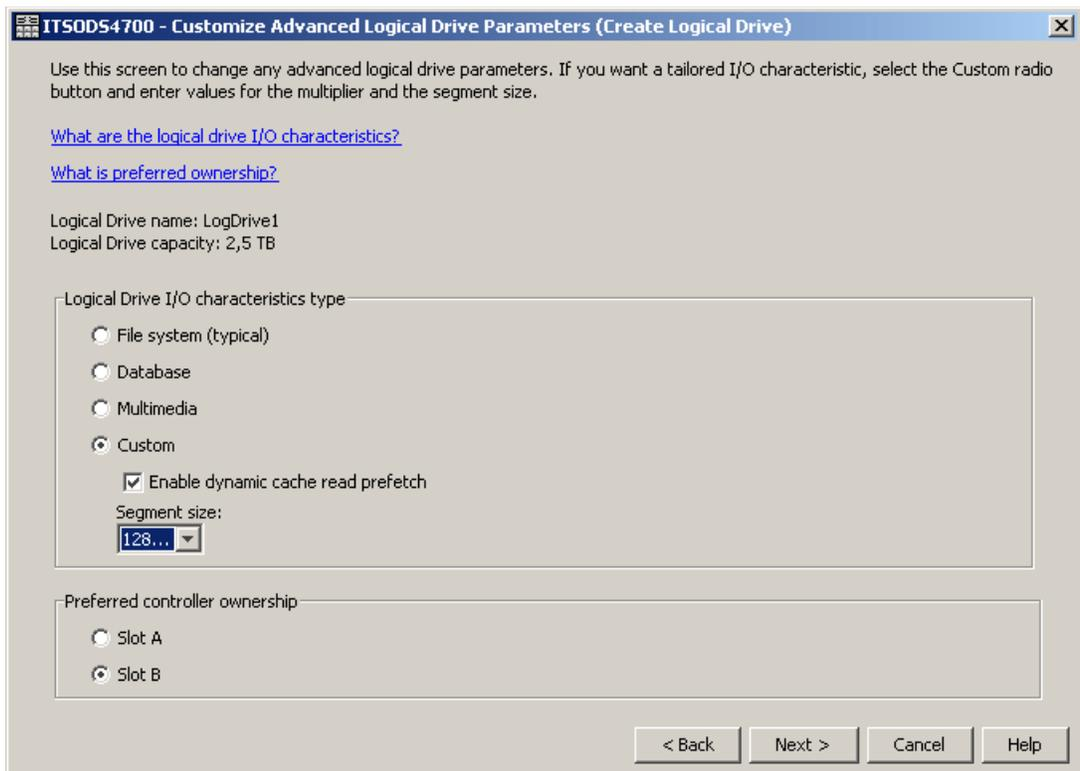

Figure 5-55 Customize logical drive parameters
7. The Customize Advanced Logical Drive Parameters dialog appears (Figure 5-55 on page 258). You can set your new logical drive using any of the predefined I/O types listed, or manually set the cache read ahead multiplier, segment size, and controller ownership.